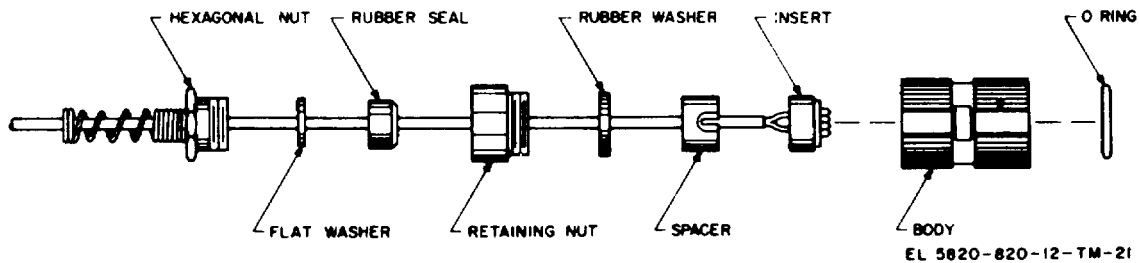

Figure 2-9. Loudspeaker LS-610/UR connector 1P3 and 1P4 assembly.
(1) Disassemble connector 1P3 and slide the two conductors through the hexagonal nut, the flat washer rubber seal, retaining nut rubber washer and spacer in the order shown in figure 2-9. Be sure that the indented slit in the spacer is toward the insert.